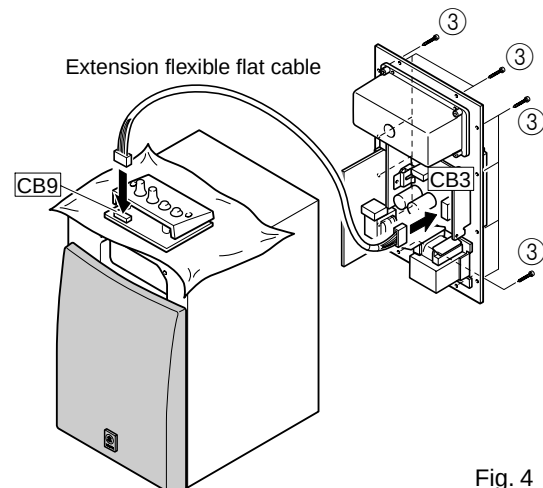

Fig. 4
Remove 12 screws (③) in Fig. 4, and remove the rear panel. At this time, disconnect the connector CB3 of MAIN P.C.B. (1).
- Disconnect the connector CB9 of MAIN P.C.B. (4).
- Connect the connector CB3 of MAIN P.C.B. (1) and CB9 of MAIN P.C.B. (4) by using an extension flexible flat cable. (Fig. 4)